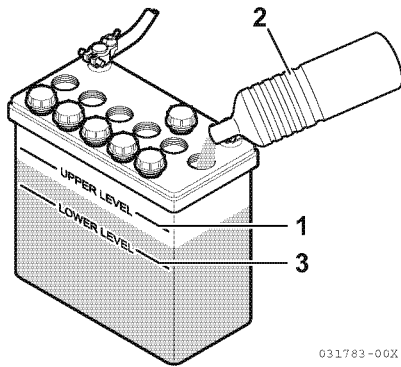

Figure 5-1
- When the amount of fluid nears the lower limit (3, Figure 5-1), fill with distilled water (2, Figure 5-1) so it is at the upper limit (1, Figure 5-1). If operation continues with insufficient battery fluid, the battery life is shortened, and the battery may overheat and explode. During the summer, check the fluid level more often than specified.